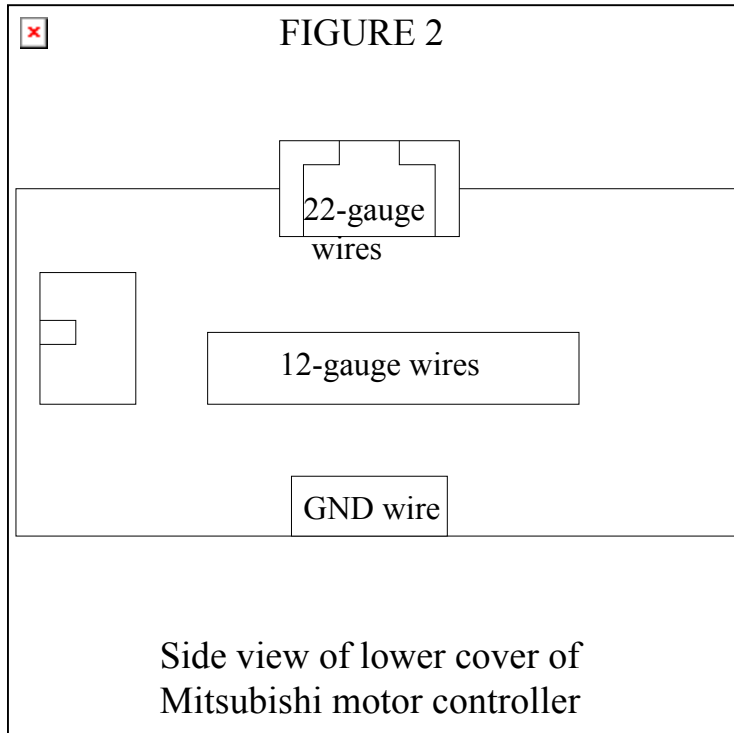

FIGURE 1
9. The new controller wiring goes to A 12-position terminal strip. There is a clear plastic cover over the screws. Please remove this cover by lifting it off the **terminal strip**. There are two (2) 10-32 x 1/2" bolts that mount the strip to the mounting plate. Remove the two screws that mount the terminal strip, and lift up the terminal strip from its mounting plate. This will allow you access to the flat head screw under the terminal strip.
10. Please look at the enclosed drawing Figure 1. This drawing shows where the new terminal block mounting plate is to be mounted. There are two (2) existing threaded holes in the upper left area where the terminal block is to be mounted.
12. Mount the supplied motor controller adapter plates in the existing holes as shown in Figure 1. **Leave the bolts loose at this time.** Use the 10-32 x 1/2" socket head bolts with washers. Use Loctite 242 to secure the bolts. The bolts will be tightened after the next step.
18. The five (5) wires that were removed in step No. 5 will now be terminated at the terminal strip. Match the wire colors of the five wires with the wires that are terminated in the terminal strip, orange to orange, etc.
19. Enclosed in the kit are 5 red ring terminals. The old terminal rings on the five (5) wires may not fit in the terminal block. You can replace the old terminal rings with these ring terminals if you want to. You can also simply cut off the old terminals, strip off about 1/4" of the insulation off each wire, and terminate them in the new terminal block.
21. Please refer to the enclosed FR-E500 instruction manual, page 7, item 1.3.3 (Removal and installation of wiring cover). Remove the top cover by squeezing the sides, and lifting off the cover. Remove the bottom cover as shown in the top photo on page 7.
23. Route the 12-gauge wiring bundle down the left-hand side of the motor controller, as shown in Figure 1.
31. Please look at the existing motor controller board mounted in the top right of the power box, as shown in Figure 1. If this board does **not** have two blue (2) small speed pots mounted on it (one for **jog**, one for **maximum speed**), look for an additional speed pot mounted on the blue divider panel where the existing power supply is mounted. This pot would be wired in series with the operator controlled press speed control. **Do not adjust the pot in the existing 12 VDC power supply. You can damage the power supply if you try to adjust the pot in the power supply.** If there is an additional pot mounted on the divider panel, **then this is your maximum speed adjustment pot.**